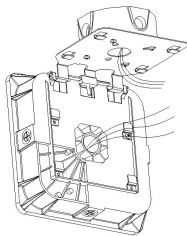

Figure 6
- Hang the luminaire onto the mounting plate hooks, and then connect the black, white and yellow / green luminaire wires to incoming power wires (black to line, white to neutral, and yellow / green to ground). See Figure 6 and wiring Diagrams.